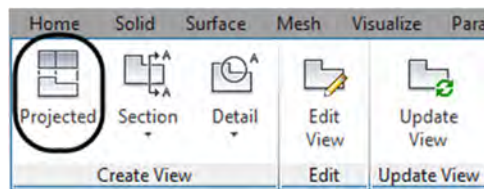

FIGURE 27.12
Step 1. Select, by clicking once, whichever of the existing projections you would like to use as the “parent” projection in order to generate some new ones. In this example, the front view in the middle is chosen. Once it is clicked on, the Ribbon changes to the Drawing View tab. Select the Projected icon, as seen in Figure 27.12.
Step 1. Select, by clicking once, whichever view you want to section—the main view in the center in this example. The Ribbon once again changes to the Drawing View tab seen in Figure 27.12. Select the Section icon, just to the right of Projected. As you drop down the menu, take note of the five types of sections available: Full, Half, Offset, Aligned, and From Object. We try only the Offset one, leaving the rest for you to practice. They all work on the same principle. Click on the Offset option and the Ribbon changes to the Section View Creation tab.
Step 1. Select, by clicking once, whichever view you want to section—the bottom of one of the side projections on the right is chosen in this example. The Ribbon once again changes to the Drawing View tab seen in Figure 27.12. Select the Detail icon, just to the right of Section. As you drop down the menu, take note of the two types of details available: Circular and Rectangular. We try only the Circular one, leaving the Rectangular one for you to practice. They all work on the same principle. Click on the Circular option and the Ribbon changes to the Detail View Creation tab.